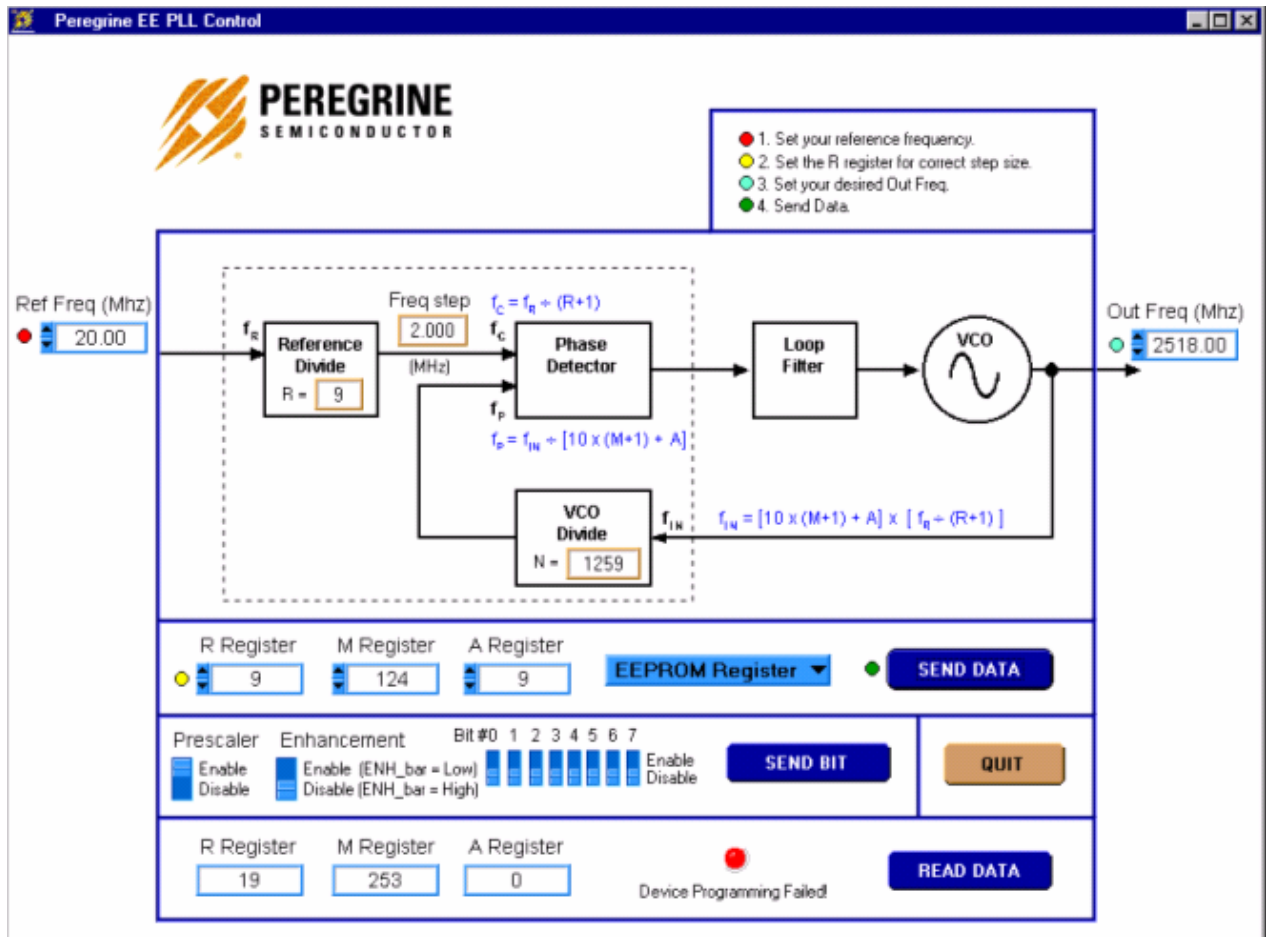

Figure 5. Example of EEPROM Programming Software Screen when programming failed.
- Step 9: The program will automatically read back the R, M and A Register values and display them in the bottom section. If the EEPROM is programmed successfully, a message “Device Programmed Successfully!” with a green dot will display in the bottom section as shown in Fig. 4. Otherwise, if any of the read back values is different from the programmed value, a message “Device Programming Failed!” with a red dot will display as shown in Fig. 5. This feature can be used to read back the R, M and A Register values of a previous programmed part. To do this, just complete the previous section “Evaluation Kit Configuration for EEPROM Programming” and Steps 1 and 2 of this section and then click the “READ DATA” button in the right bottom corner. The “READ DATA” function will read back and display the R, M and A Register values of a previous programmed part without showing other message.